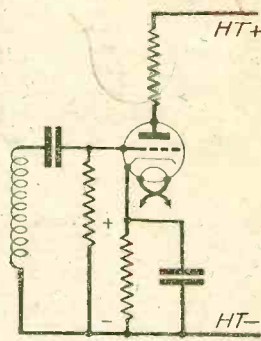

Fig. 51.—Cathode biasing.
(5) Cathode biasing is the same in action as H.T. biasing, except for the fact that the H.T. biasing voltages are produced by a common resistance, whereas the cathode biasing is achieved by the insertion of a resistance in the cathode circuit of the valve concerned. This type of biasing is generally used in mains valves that are indirectly heated. Fig. 51.